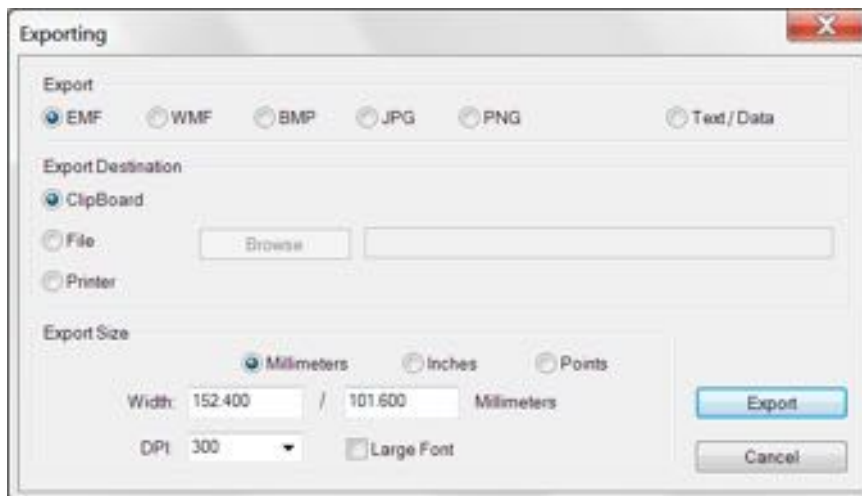

Figure 10-100: Exporting Dialog Box
2. In the **Exporting** dialog box (see Figure 10-100), select the export options and click **Export**.